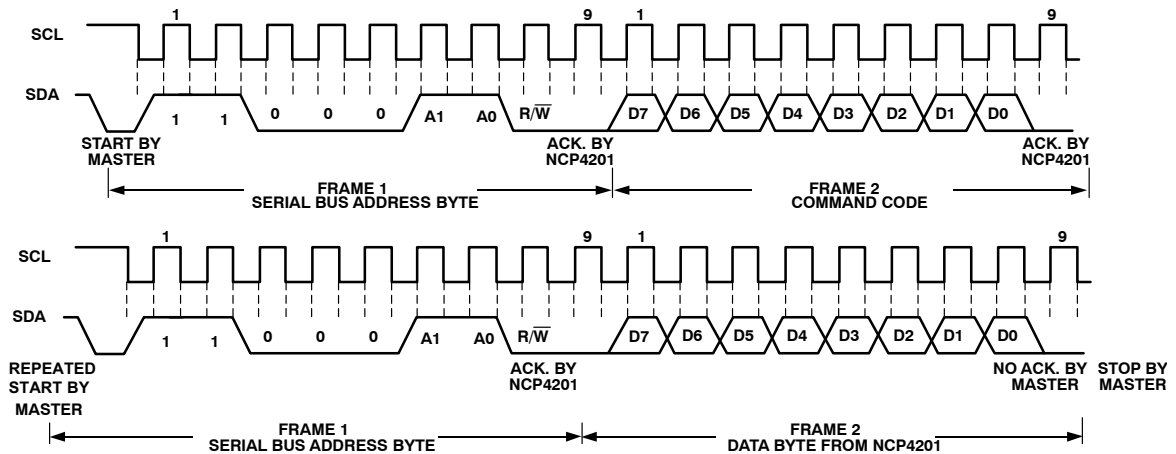

Figure 13. Read Byte
1. The read byte operation is shown in Figure 13. First the command code needs to be written to the NCP4201 so that the required data is sent back. This is done by performing a write to the NCP4201 as before, but only the data byte containing the register address is sent, because no data is written to the register. A repeated start is then issued and a read operation is then performed consisting of the serial bus address; R/\overline{W} bit set to 1, followed by the data byte read from the data register.